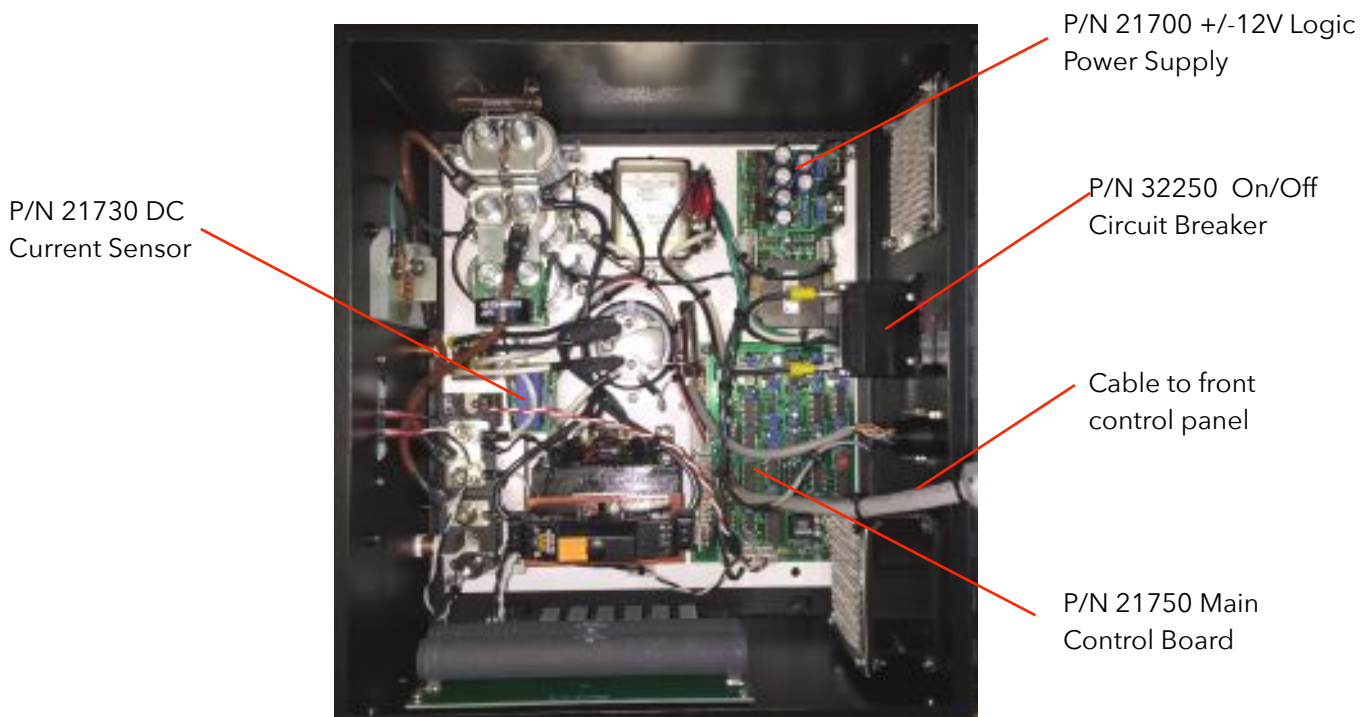

Fig. 1
1.2 Disconnect power to the unit. Open up the power supply front door. Visually inspect the interior of the unit, looking for any loose or unplugged wiring connections. In particular, make sure that the connectors to the +/-12V logic power supply (P/N 21700), connector from the logic power supply to the main control board (P/N 21750) and the connector from the logic control board to the front control panel (P/N 21820 or P/N 21920) are all properly plugged in. See Figure 1.